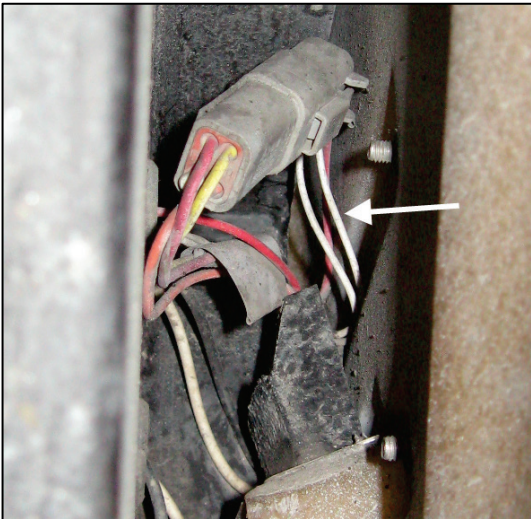
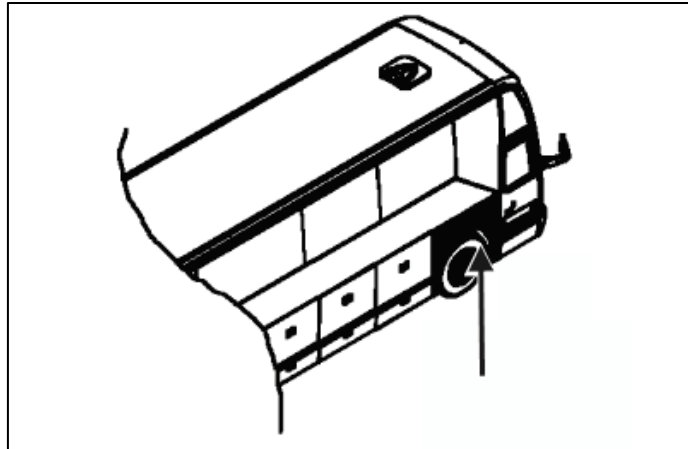

Figure 1
Figure 2
1. Looking in the gap between the fiberglass fender and the bus structure (Fig.1 & 2), perform a thorough inspection of the door switch wires between grommet and connector (Fig. 2 & 3) using a mirror to inspect all around wires.
Check that the insulation material of the 3 wires is intact and in good condition. (Fig. 2, 3)